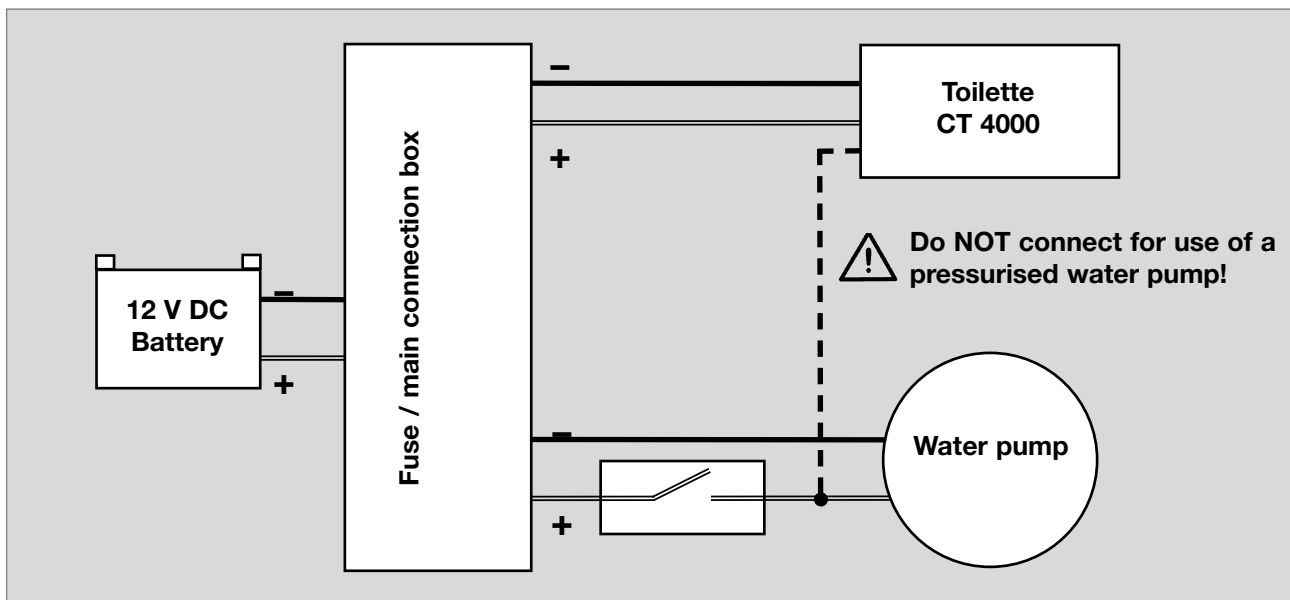

Fig. 30
- Connect the toilet to a suitable power supply via the main connection block of the vehicle (Fig. 30).